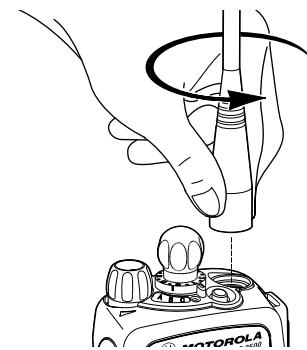

Figure 17. Removing the Antenna
3. Remove the antenna (see Figure 17 on page 39).